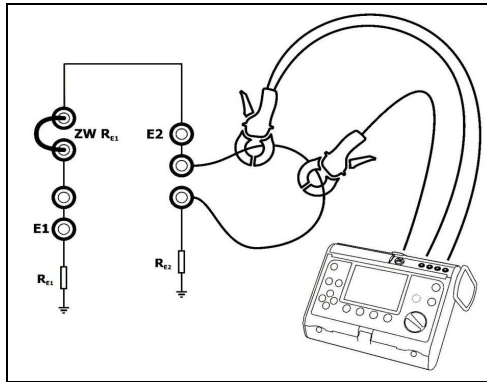

Figure 11. Connection of the meter.
- connect the earth resistance meter (MRU-XXX) to the sockets in accordance with Figure 11,